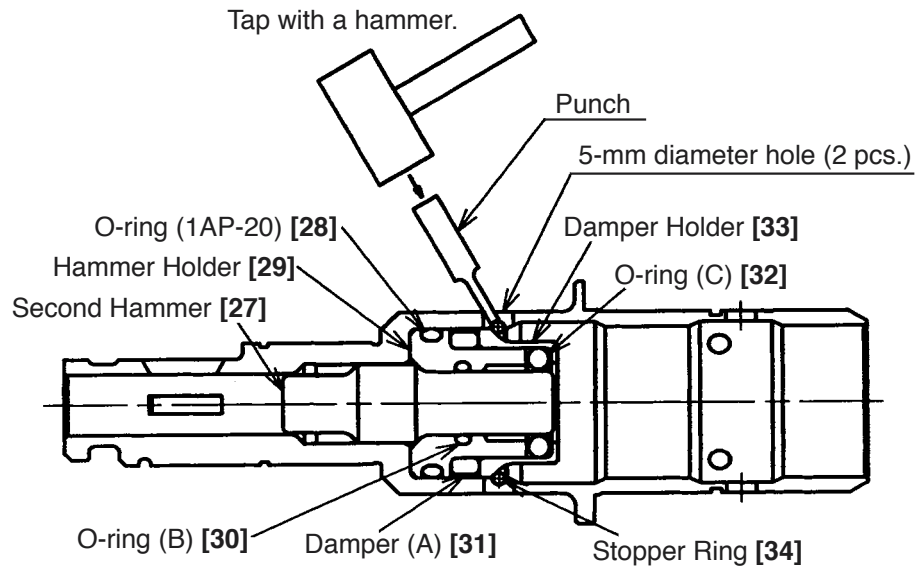

Fig. 17
(6) Removal of the cylinder and the second hammer
Remove the Stopper Ring [34] from the inside diameter portion of the Cylinder [22]. Then the Second Hammer [27], O-ring (1AP-20) [28], Hammer Holder [29], O-ring (B) [30], Damper (A) [31], O-ring (C) [32] and Damper Holder [33] can be removed from the Cylinder [22]. Remove the Stopper Ring [34] from the groove of the inside diameter portion of the Cylinder [22] by tapping the Stopper Ring [34] through the 5-mm diameter hole of the Cylinder [22] with a hammer and a punch as shown in Fig. 17. At reassembly, replace the Stopper Ring [34] with new one as the removed Stopper Ring [34] is deformed. To prevent idle hammering, also replace O-ring (C) [32] with new one at reassembly.